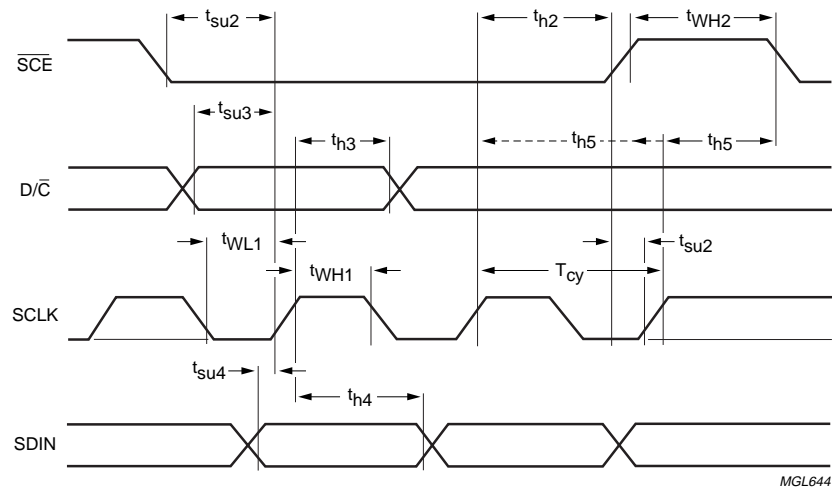

Fig.15 Serial interface timing.
3. th5 is the time from the previous SCLK positive edge (irrespective of the state of SCE) to the negative edge of SCE (see Fig.15).